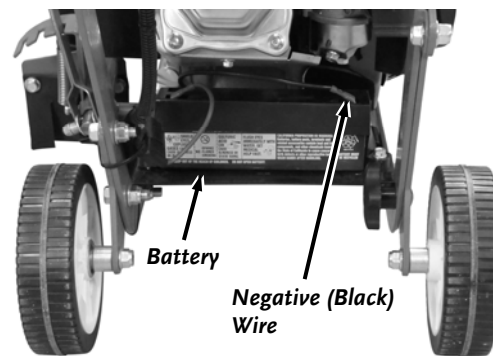

Figure 9
1. Connect the Black Negative Terminal onto the negative Battery Lug (**Figure 9**).